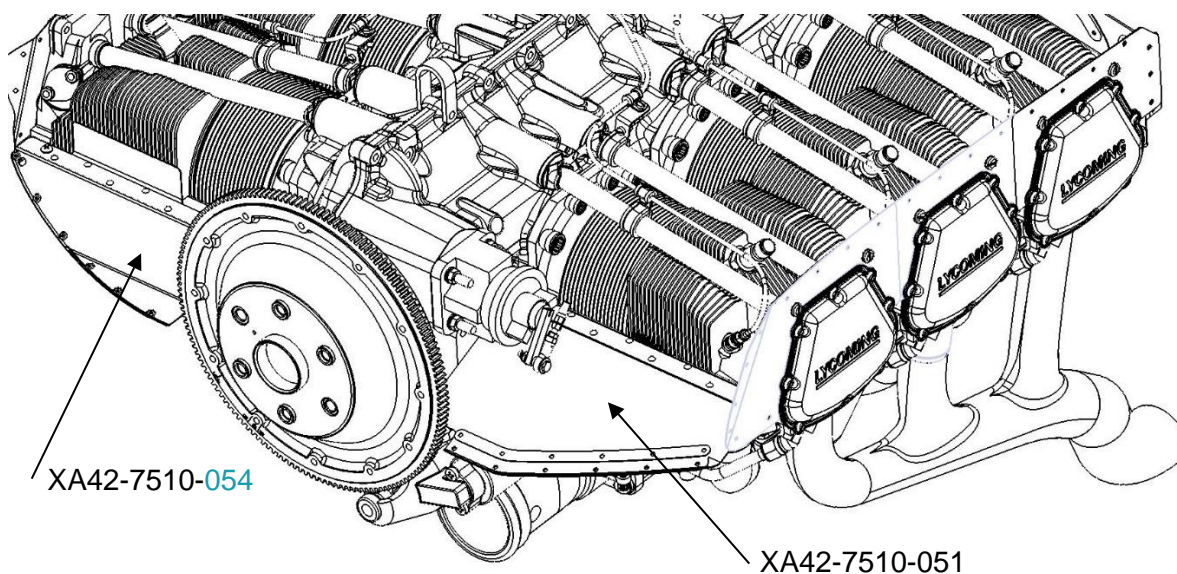

Figure 1: Identification of the baffle assemblies XA42-7510-051/-054
Accomplishment Instructions:	<p>Read all the instructions and make sure the complete procedure is understood before starting the assembly work on the aircraft. In case of doubt, contact the manufacturer.</p> <ol style="list-style-type: none"> 1. Remove the lower cowling in accordance with chapter 71-10-02 of the AMM. <p>LH baffle:</p> <ol style="list-style-type: none"> 2. Remove the LH front baffle assy. XA42-7510-051. Refer to Figure 1 for identification.
11. Remove the RH front baffle assy. XA42-7510-054. Refer to Figure 1 for identification.